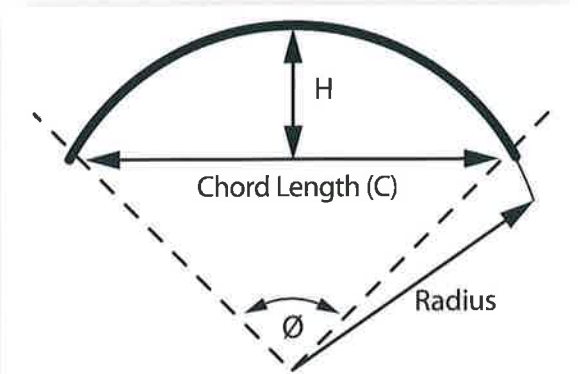

Figure 9: Curvature Measurements
- 2. Measure the corresponding chord length (C) - refer to Figure 9
- 3. Measure the corresponding centre offset (H) - refer to Figure 9